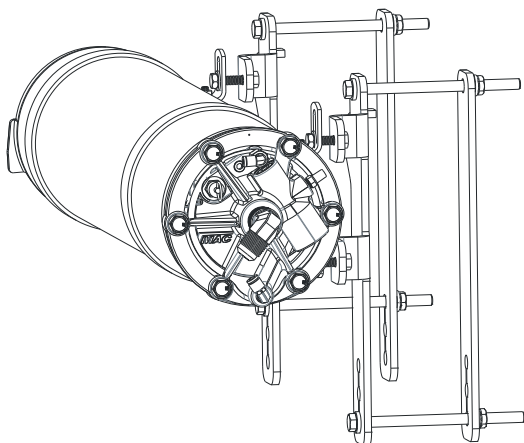

Figure 4.2
- ☐ Apply Loctite pipe thread sealant and install a suitable 3/4" fitting in the outlet on the tank. A 90° fitting is required (but not supplied). Tighten it to about the seven o'clock position for testing, then reposition as required for final connections (Figure 4.2).